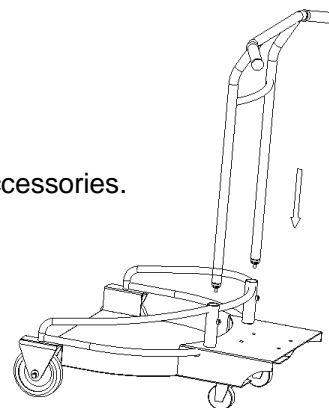

Fig. 1
1. Take out the up handle, insert it on the trolley (See Fig. 1)